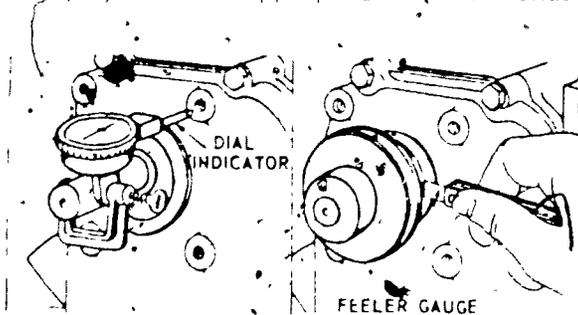

FIGURE 10
- Q. Check end play of crankshaft (Figure 10).